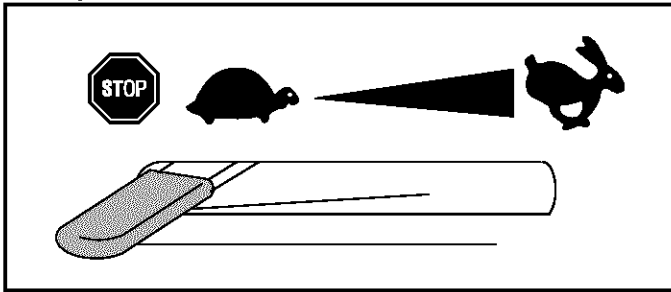

Figure 1
- Move throttle control lever to STOP position. See Figure 1.
2. To stop the engine, move the engine throttle lever to STOP. Refer to Figure 1.